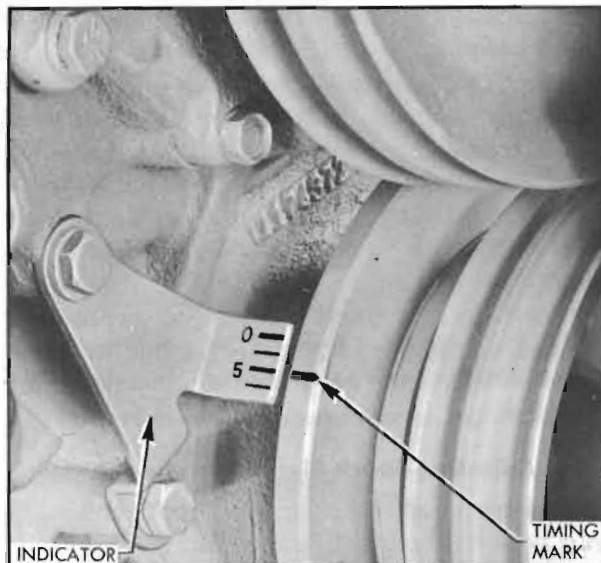

Figure 10-43—Ignition Timing Mark and Indicator
The timing mark is a groove filled with yellow paint, which is on the rear edge of the harmonic balancer. A timing indicator, mounted on the timing chain cover, has four grooves filled with yellow paint. These grooves indicate U.D.C. (marked "0"), $2\frac{1}{2}$ degrees, 5 degrees, and $7\frac{1}{2}$ degrees before U.D.C. See figure 10-43.
1. With right rocker arm cover removed, rotate crankshaft in a forward direction using a suitable wrench on the harmonic balancer to crankshaft bolt. Continue rotation until both valves for No. 1 cylinder are completely closed and the timing mark on balancer is aligned with the 5 degree mark on timing indicator. See figure 10-43. No. 1 cylinder is now in position to fire.
4. Direct beam of timing light on the timing indicator and edge of harmonic balancer. Turn distributor housing slowly until yellow mark on balancer lines up with the 5 degree mark on indicator, then tighten clamp bolt securely. See figure 10-43.